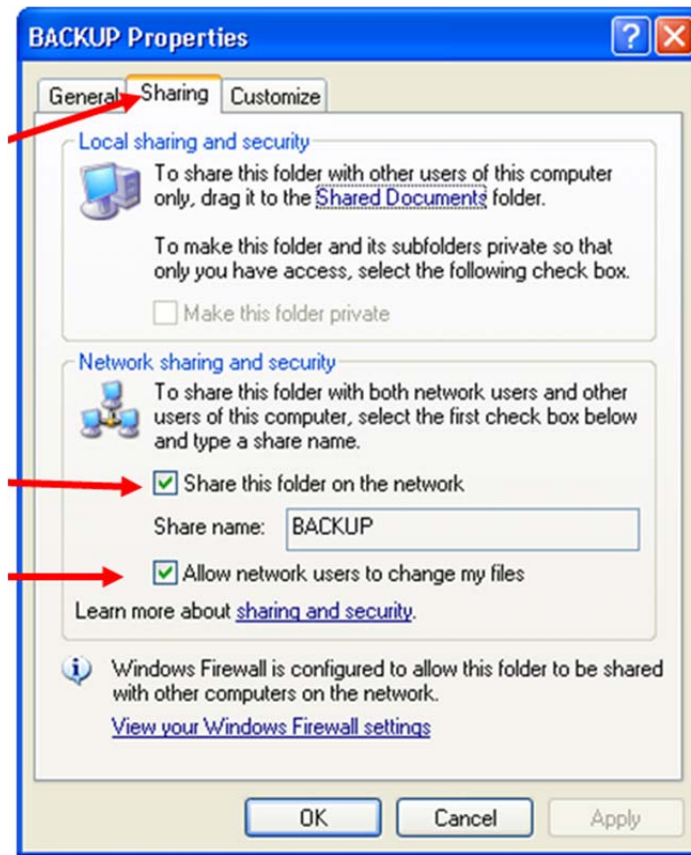

Figure III-29. Properties Window (Sharing Tab)
- c. Click on the Sharing tab (Figure III-29).